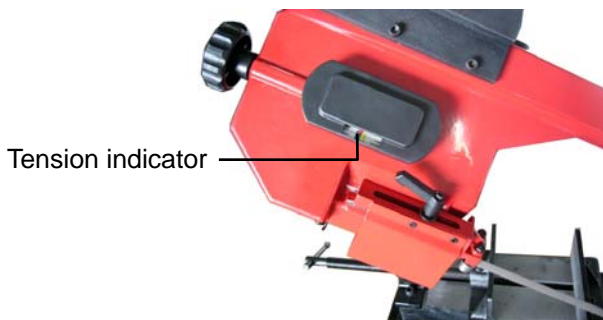

Fig. 22
- Turn the tension wheel clockwise until the tension indicator pointed the green sign in Fig.22